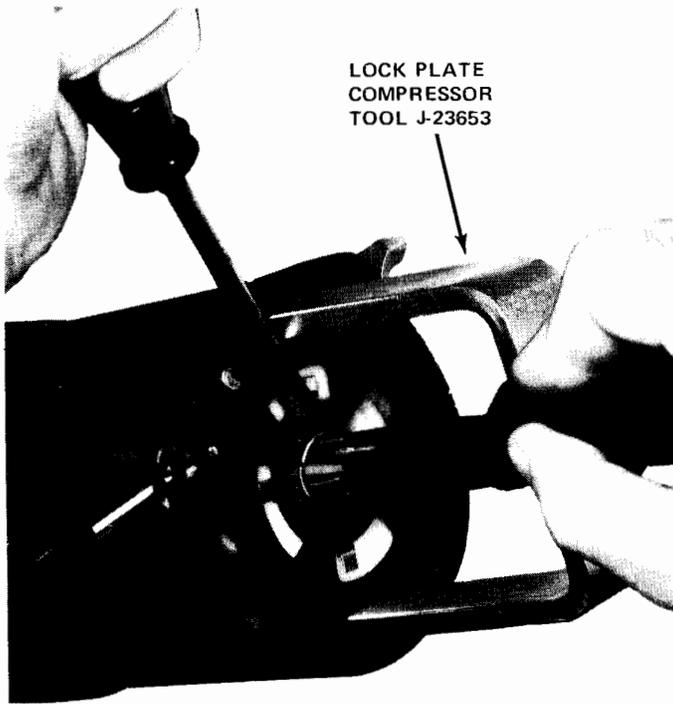

Fig. 3-85 Lock Plate Snap Ring Removal
- (1) Disconnect battery negative cable.
- (2) Remove horn contact trim cover by loosening bottom attaching screws.
- (3) Disconnect horn wire from switch in steering wheel cavity by gently pulling quick-disconnect connector.
- (4) Remove steering wheel nut. Note alignment of steering wheel to steering shaft index marks for later installation.
- (5) Remove steering wheel with Steering Wheel Puller J-21232-01.
- (6) Loosen anti-theft cover retaining screws and lift cover from column. It is not necessary to completely remove these screws as they are held on the cover by plastic retainers.
- (7) Use Lock Plate Compressor Tool J-23653 to depress lock plate (fig. 3-85).
- (8) Once lock plate is depressed, pry round wire snap ring from steering shaft groove.
- (9) Remove Lock Plate Compressor Tool, snap ring, lock plate, directional signal canceling cam, upper bearing preload spring and thrust washer from steering shaft.
- (10) Place directional signal actuating lever in right turn position and remove lever.
- (11) Depress hazard warning light switch, located on right side of column adjacent to the key lock, and remove button by turning in a counterclockwise direction.
- (12) Remove directional signal wire harness connector block from its mounting bracket on right side of lower column.